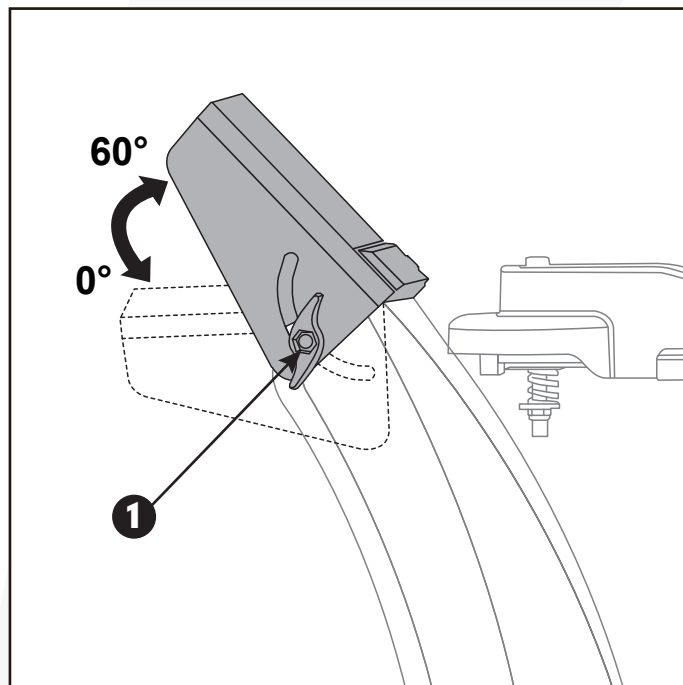

Fig. 16
1. Loosen the locking knob and adjust the snow discharge deflector to a suitable height. (Fig. 16)